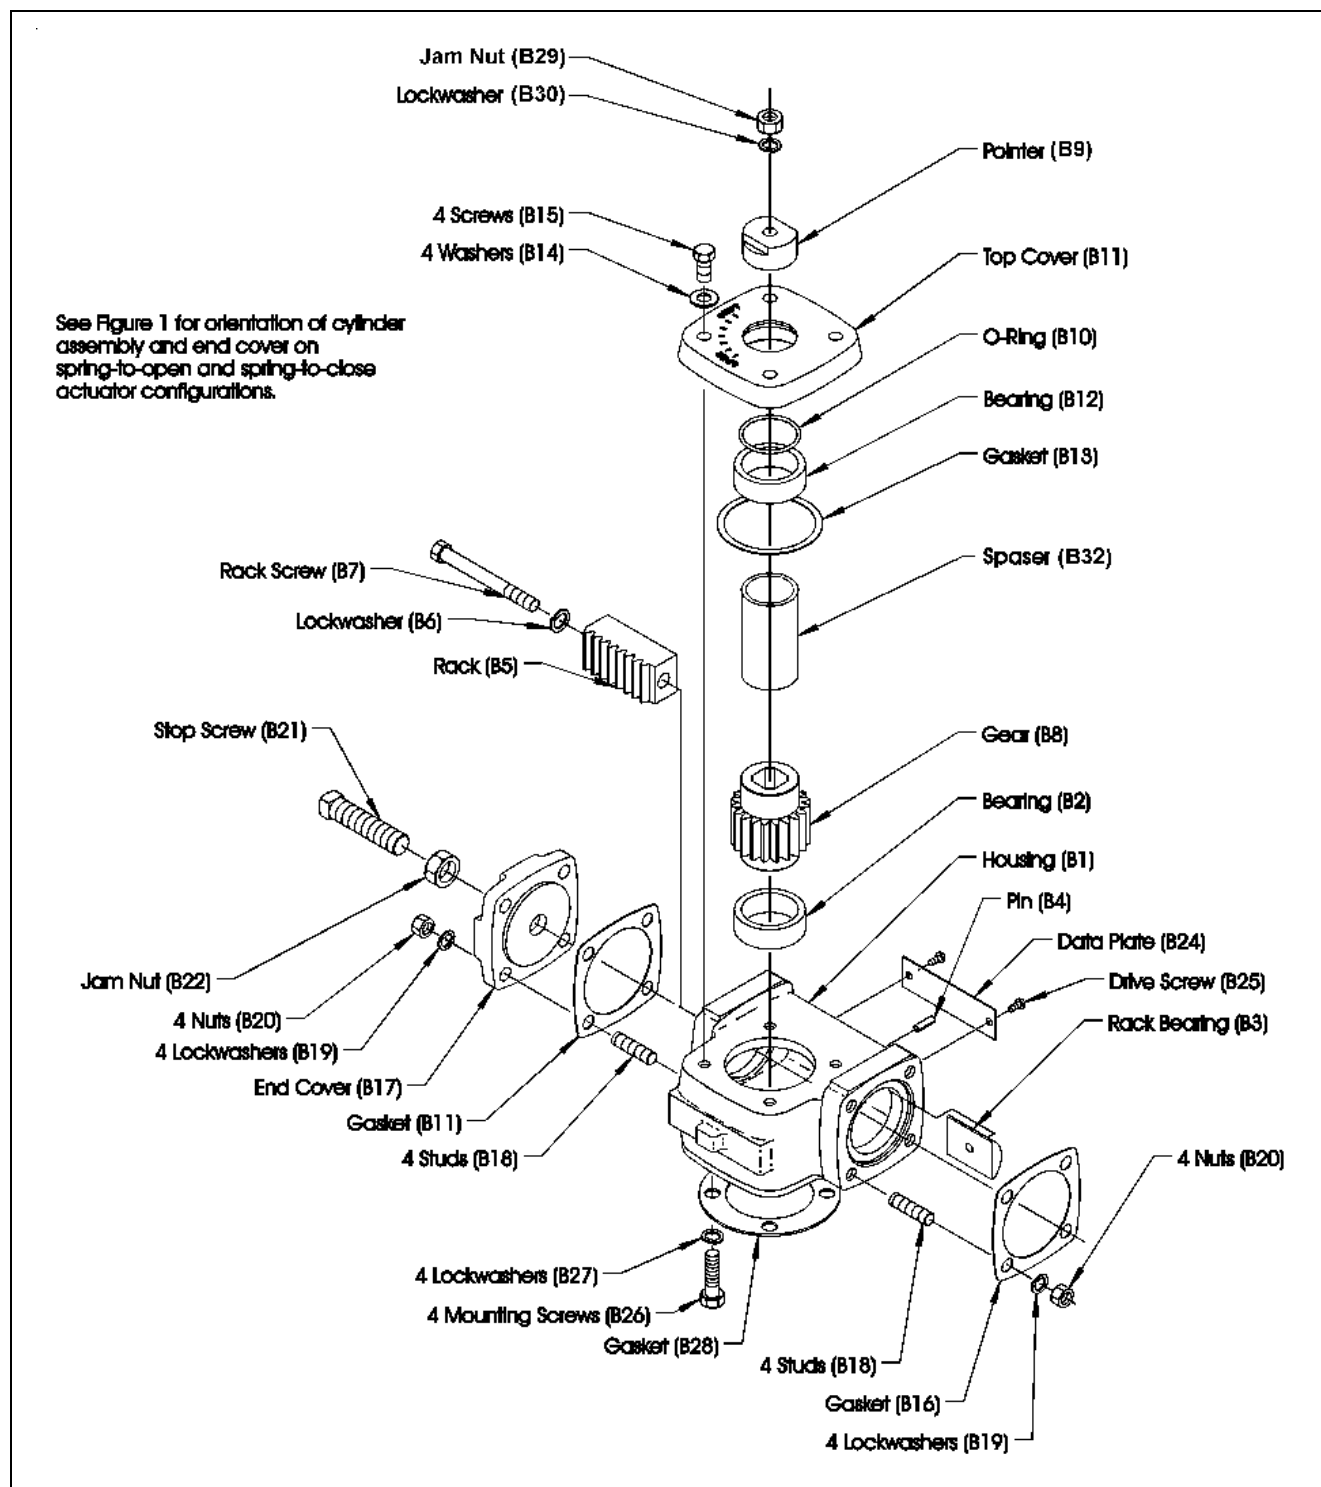

Figure 5—Actuator Assembly, Less Cylinder
The actuator has been lubricated at the factory and requires no routine lubrication. If the actuator is disassembled (see Figures 5 and 6 for actuator parts identification);
Refer to Figures 5 and 6 for component identification.
3. Remove the jam nut (B29), and remove the threaded pointer (B9) and spacer (B32) from the stud [*Stud Not Shown in Figure 5*].
Refer to Figure 5 for component identification.